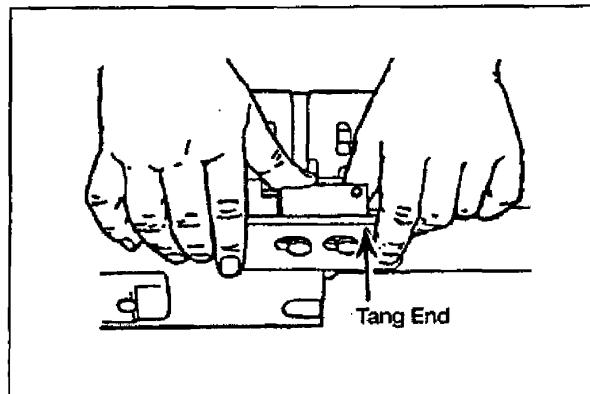

Figure 071-030-0001-17. Attachment of the round positioning block
(4) Hold the charger tightly against the rail. Slide the charger forward until it locks into place.
b. Attach the round positioning block (Figure 071-030-0001-17).